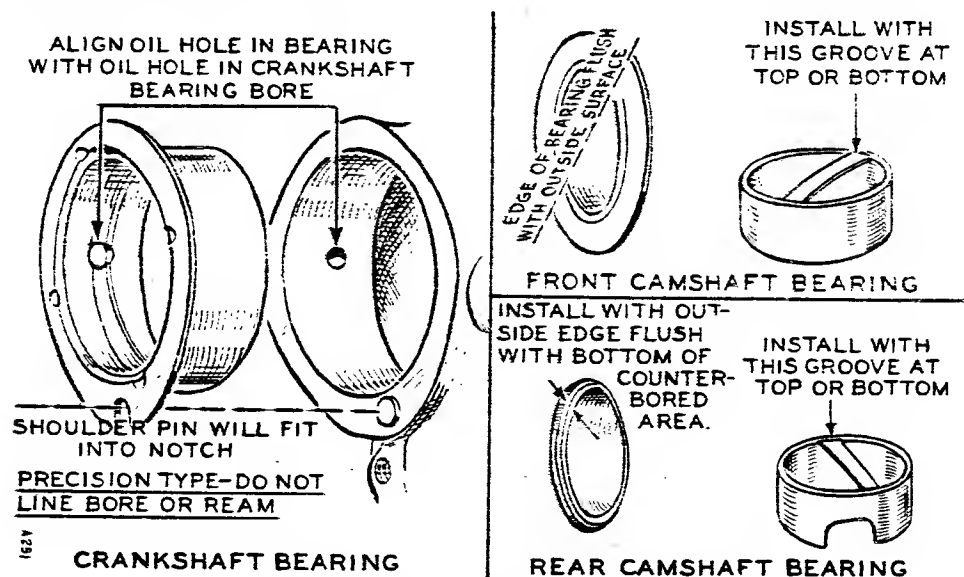

Fig. 23 Main and Camshaft Bearings
**MAIN BEARINGS.** - The crankshaft main bearings are of the sleeve type, flanged to take the crankshaft end thrust. Main bearings are available in standard, 0.002 inch and 0.020 inch undersizes, and do not require finishing to size after installation. The oil holes in the bearing must align with the oil passage openings in the crankcase or bearing plate, and a pin fits a slot in the bearing flange, Fig. 23. Use care to start and press the bearing in straight, to prevent any distortion.